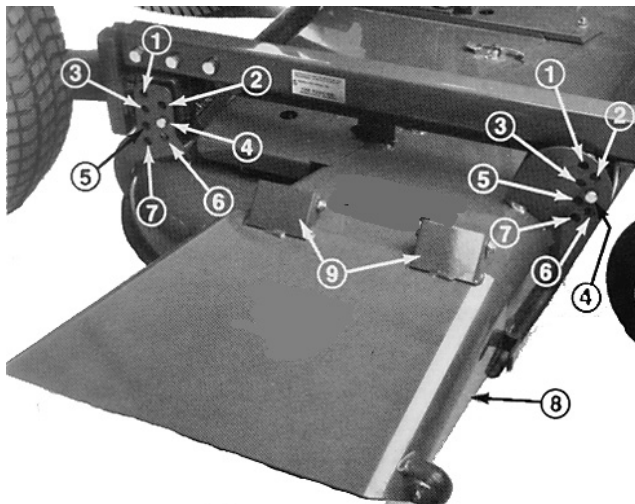

Figure 8
7. Lower the carrier frame and install 4 clevis pins through the desired height-of-cut bracket holes and frame brackets. Secure all 4 pins with hairpin cotters (Fig. 8).